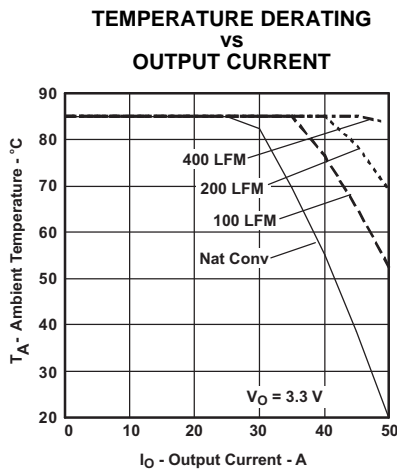
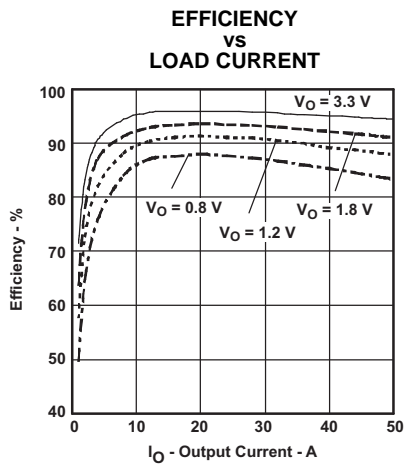
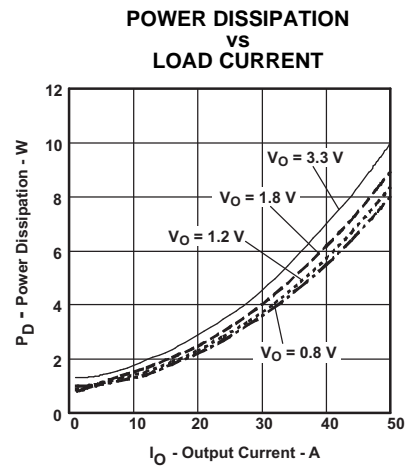

Figure 3.
Figure 5.
Figure 6.
- (2) The temperature derating curves represent the conditions at which internal components are at or below the manufacturer's maximum operating temperatures. Derating limits apply to modules soldered directly to a 4-mm x 4-mm, double-sided PCB with 1-oz. copper. For surface mount packages (AS and AZ suffix), multiple vias (plated through holes) are required to add thermal paths around the power pins. Please refer to the mechanical specification for more information. Applies to Figure 3 and Figure 6.
- (3) The electrical characteristic data has been developed from actual products tested at 25°C. This data is considered typical for the converter. Applies to Figure 5 , and Figure 6 .